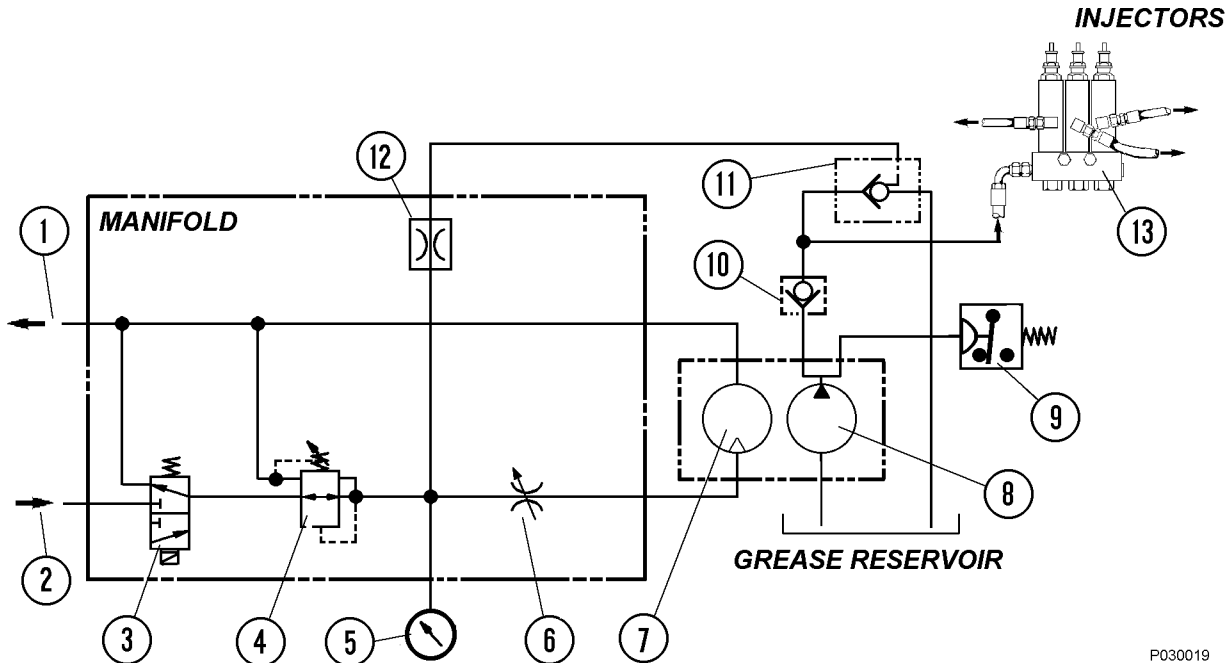
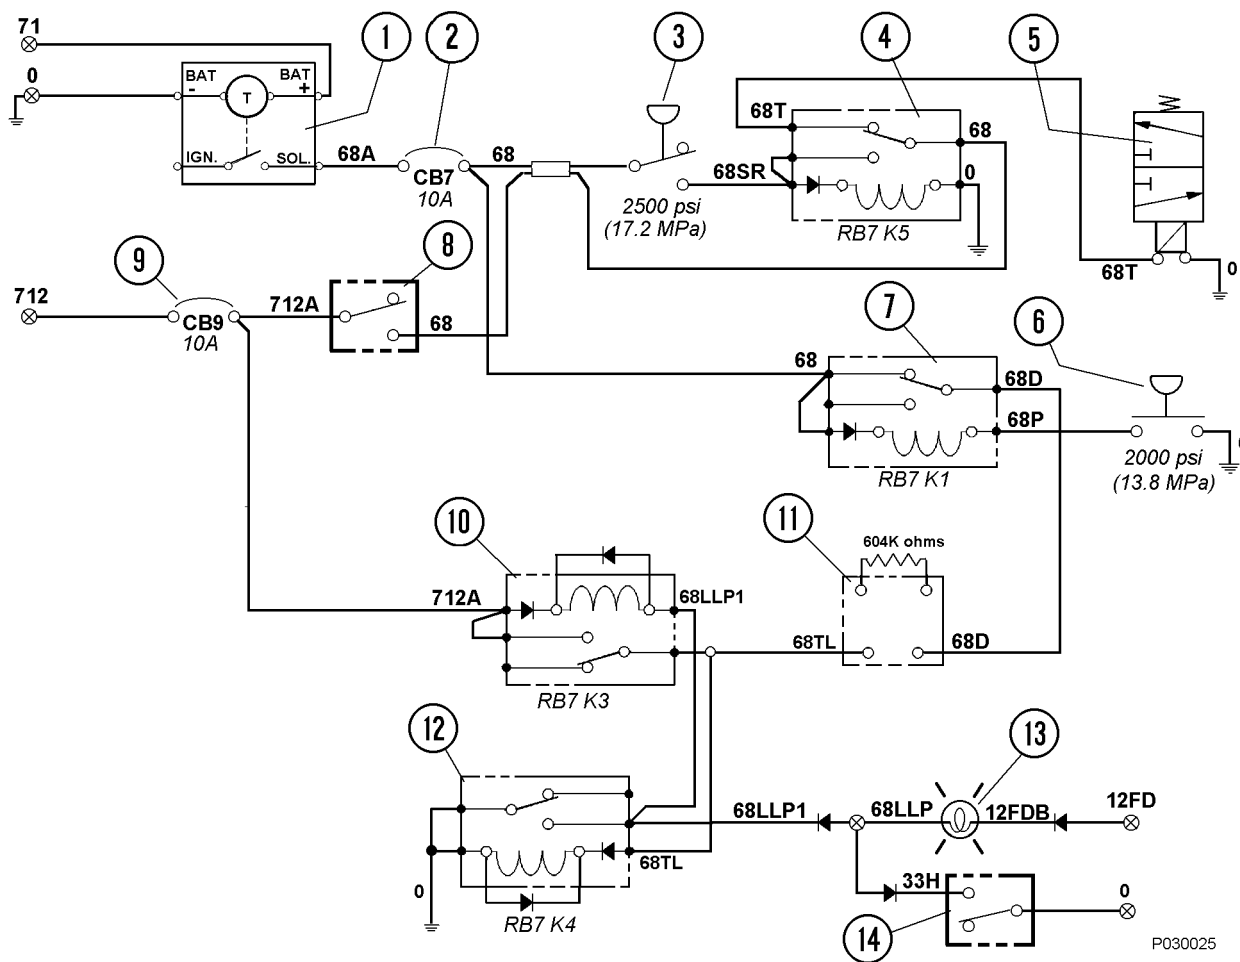

FIGURE 42-3. HYDRAULIC SCHEMATIC
FIGURE 42-4. ELECTRICAL SCHEMATIC
Lubrication Cycle Timer (1, Figure 42-4)
Delay Timer (11, Figure 42-4)
1. During truck operation, the lubrication cycle timer (1, Figure 42-4) will energize the system at a preset time interval.
2. The timer provides 24 VDC through the normally closed relay, RB7K5 (4) used to energize the pump solenoid valve (5), allowing hydraulic oil provided by the truck steering pump circuit to flow to the pump motor and initiate a pumping cycle.
3. The hydraulic oil pressure from the steering circuit is reduced to 325 to 350 psi (2 240 to 2 413 kPa) by the pressure reducing valve (4, Figure 42-3) before entering the motor. In addition, the amount of oil supplied to the pump is limited by the flow control valve (6). Pump pressure can be read using the gauge (5) mounted on the manifold.
4. With oil flowing into the hydraulic motor, the grease pump will operate, pumping grease from the reservoir to the injectors (13), through a check valve (10) and to the vent valve (11).
6. When grease pressure reaches the pressure switch (3, Figure 42-4) setting, the switch contacts will close and energize the relay RB7K5, removing power from the hydraulic motor/pump solenoid and the pump will stop. The relay will remain energized until grease pressure drops and the pressure switch opens again or until the timer turns off.
1. When the lubrication cycle is initiated, 24VDC flows through relay RB7K1 (7, Figure 42-4) N.C. contacts to a 1 minute delay timer (11).
2. If the system is operating normally, grease pressure at the rear axle injector bank will rise to pressure switch (6) setting of 2000 psi (13.8 MPa) and energize relay RB7K1 (7), removing 24VDC from the delay timer.
3. If a problem occurs and the system is not able to attain 2000 psi (13.8 MPa), the delay timer (11)